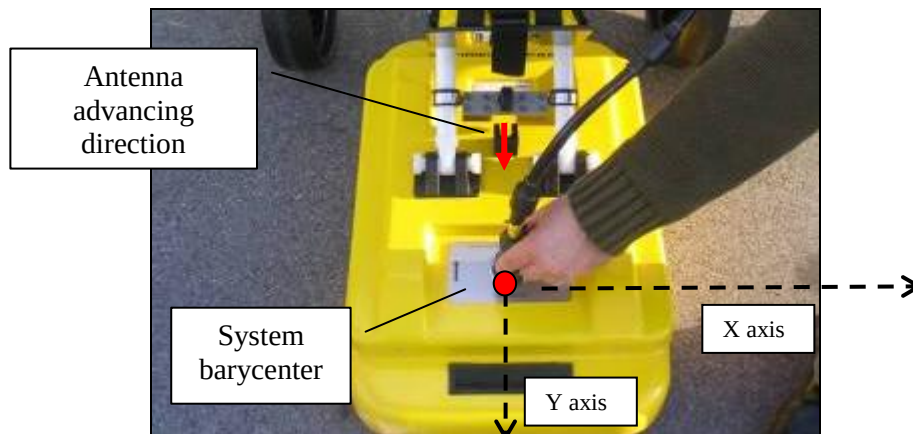

Fig. 6.5 – GPS coordinates
Step 5 The GPS antenna coordinates will be insert the text box **GPS offset X and Y** and referred to the barycenter system in the antenna (see Fig. 6.5)